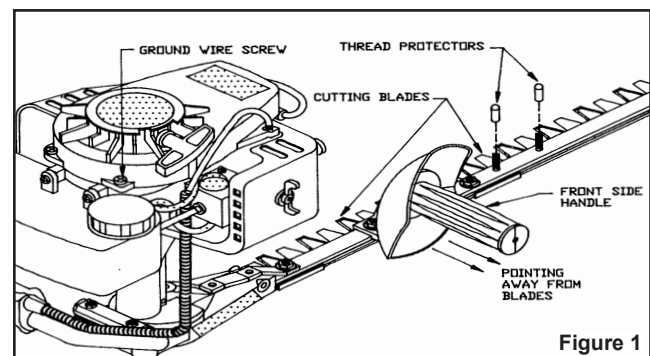

Figure 1
2. Place the front side handle over the two 1/4-28 studs protruding from the frame bar in front of the gear housing. The handle grip **must** be pointing away from the cutting blades as illustrated (**Figure 1**). On Model 2230S use the set of studs which places the handle in the most comfortable position for you. Place the thread protectors over the set of studs that you choose not to use at this time to protect the threads. Secure the handle in place using two 1/4-28 flange locking nuts provided. The nuts should be tightened enough to keep the handle from moving but not so tight as to crush the plastic.